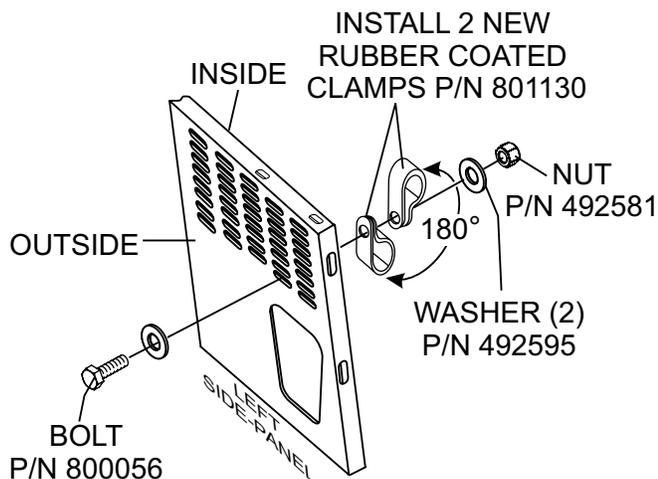

Figure 14. Air Filter/Fuel Tank Vapor Hose Clamps
4. Install 2 new rubber coated clamps (P/N 801130) to the buggy left-side panel (Figure 14). **NOTE**, these clamps must be installed 180° opposite of each other.
5. Route new fuel tank vapor hose thru newly installed upper rubber coated hose support clamp (Figure 14) on buggy left-side panel.